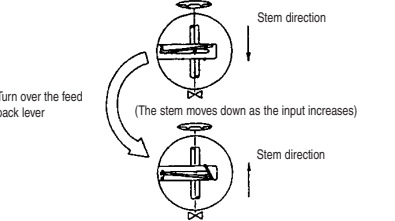

Fig.5 Use position for feedback lever
- To move the valve stem downward at the time of input current increase (normal actuation), attach to the position at which the tightening spring comes to the upper side of the connecting metal, as shown in Fig 5. To move the valve stem upward (reverse actuation), turn-over the feedback lever and attach to the position at which the tightening spring comes to the lower side of connecting metal.